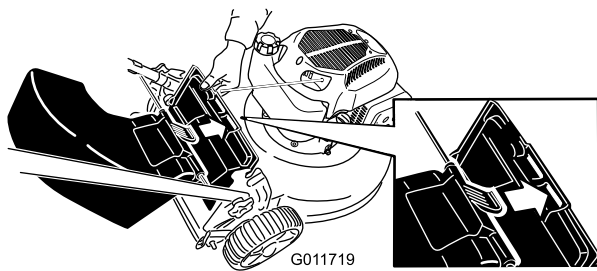

Figure 16
3. Insert the tab on the rear-discharge deflector into the right-hand slot in the rear deflector (Figure 16).